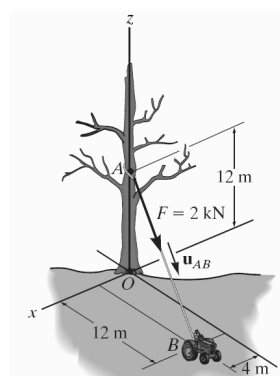

Figure 1-2
2. Determine the moment produced by the force **F** in **Figure 1-2** about point O. Express the result as a Cartesian vector.